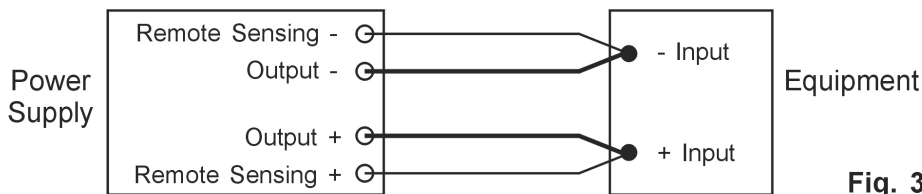

Fig. 3
3. Then make connections between Remote Sensing and equipment.(Fig. 3)